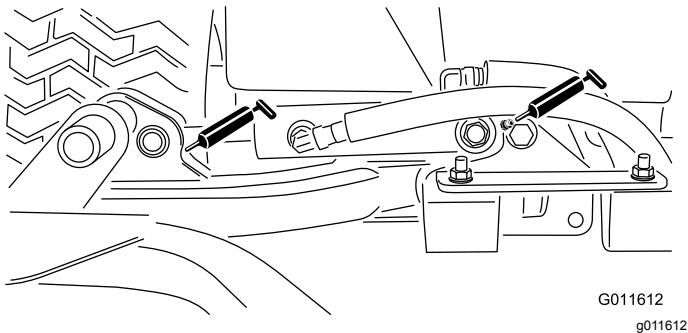

Figure 59
- Cutting unit lift-arm cylinders (2 each)—Figure 59
- Lift-arm pivots (1 each)—Figure 59